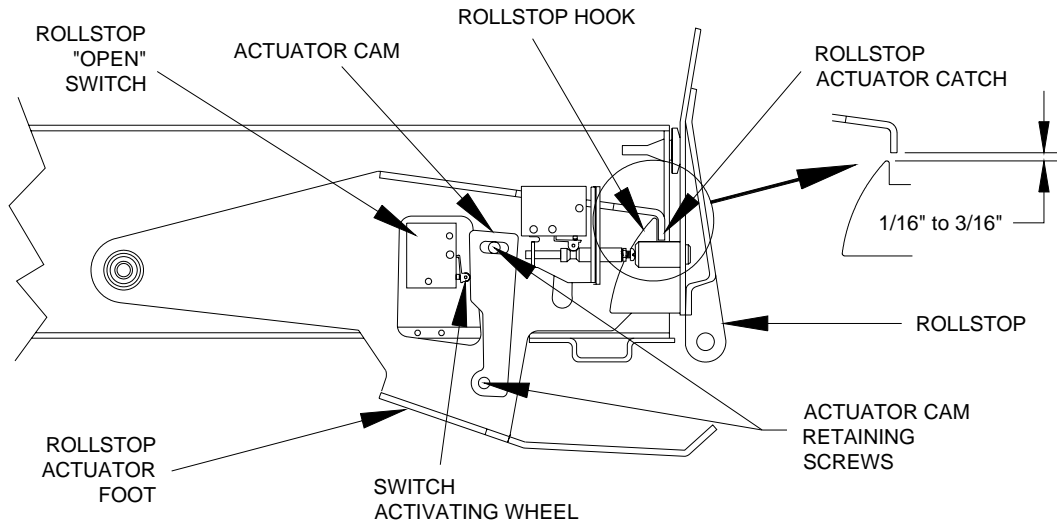

FIGURE 4-5: ROLLSTOP ACTUATION COMPONENTS
- 5) Refer to **Figure 4-5**. Loosen actuator cam retaining screws, and pivot actuator cam away from switch activating wheel (roller).
- 5) Have an assistant hold rollstop actuator foot up (**Figure 4-5**). Open rollstop with rollstop manual control knob (other hand assisting rollstop).